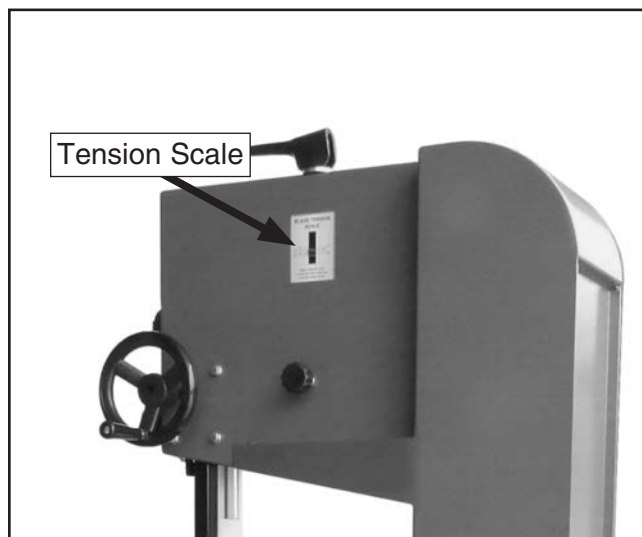

Figure 38. Tensioner adjustment.
9. Turn the tension knob until proper blade tension has been reached according to the blade thickness scale shown in **Figure 38**.